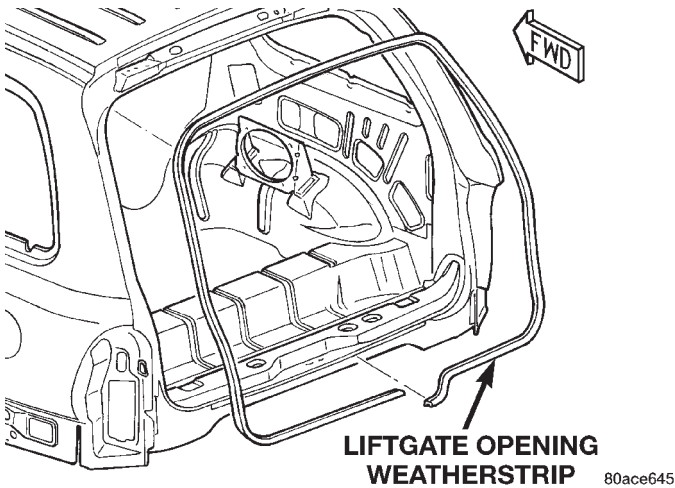

Fig. 77 Liftgate Opening Weatherstrip
- (1) Remove liftgate opening upper trim.
- (2) Remove liftgate opening scuff plate.
- (3) Pull weatherstrip from liftgate opening (Fig. 77).
- (1) Position weatherstrip in liftgate opening and align corners (Fig. 77).
- (2) Press weatherstrip onto flange and carefully tuck behind quarter panel trim.
- (3) Connect ends at bottom/center of liftgate opening.